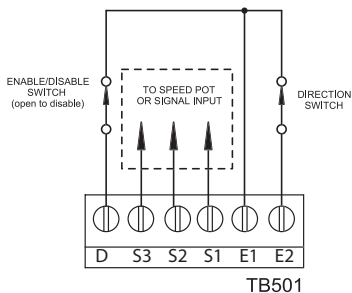
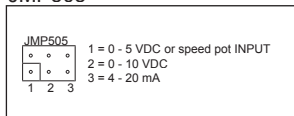

Figure 20. Signal and Optional Switch Connections for VFDx4X04 and VFD05
Figure 21. Jumper Settings--JMP504 and JMP505
Connect a single-pole, single-throw DIRECTION switch between the (D) and COMMON (E1) terminals as shown in Figure 20 (page 26). Opening the switch will cause the motor to rotate in the forward direction; closing the switch will reverse motor rotation.
Drives can be configured to follow an isolated or a grounded (non-isolated) voltage or current signal. To configure the drive to follow a voltage or current signal, connect the signal leads to the S1 and S2 terminals on TB501 as shown in Figure 20 above. Ensure that the following jumper terminals are properly set as shown in Figure 21 (page 27).